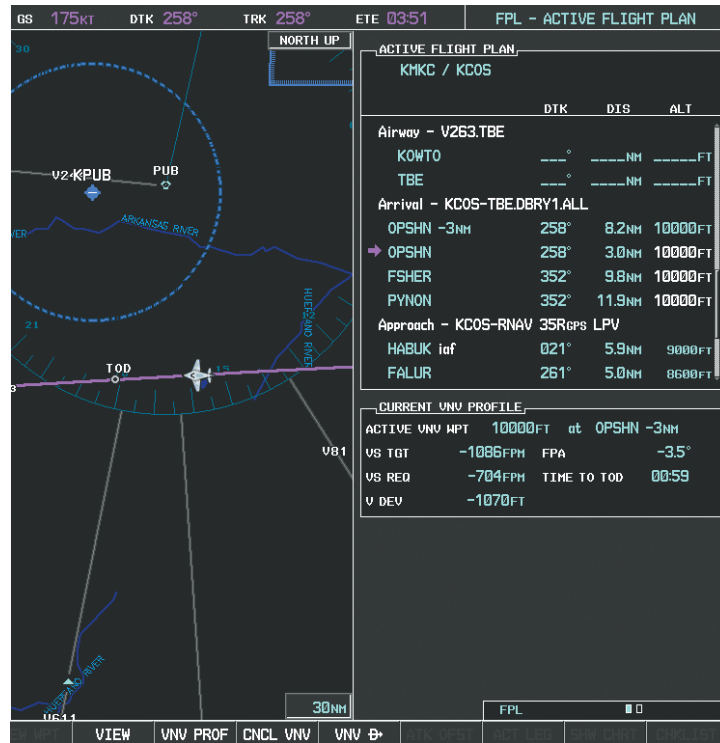
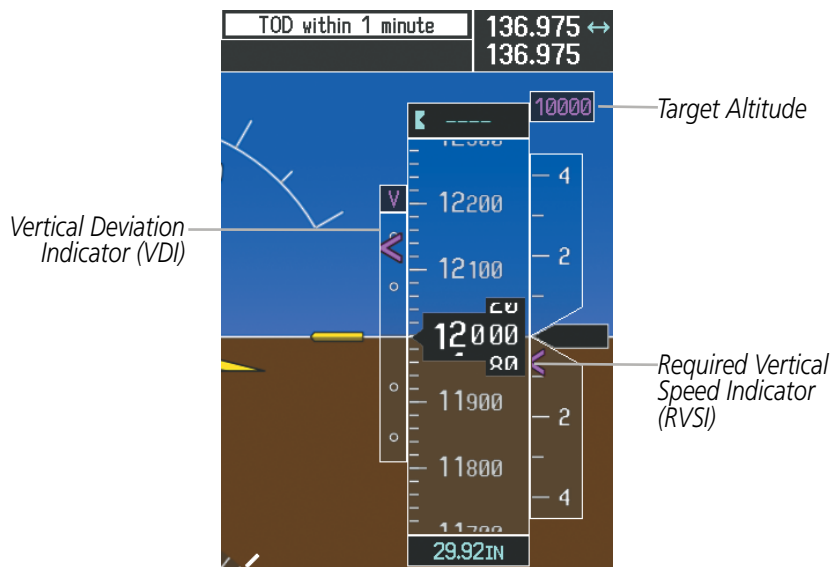

Figure 5-130 Approaching Top of Descent (TOD)
Figure 5-131 VDI & RVSI Upon Reaching Top of Descent (TOD)
- 15) As seen in Figure 5-130, the aircraft is approaching TOD. Note the target vertical speed required to reach the selected altitude. The Vertical Deviation Indicator (VDI) and the Required Vertical Speed Indicator (RVSI) are now displayed on the PFD as shown in Figure 5-131. When the aircraft is within one minute of the TOD, it is annunciated as shown in Figure 5-131, and an aural alert 'Vertical track' will be heard.